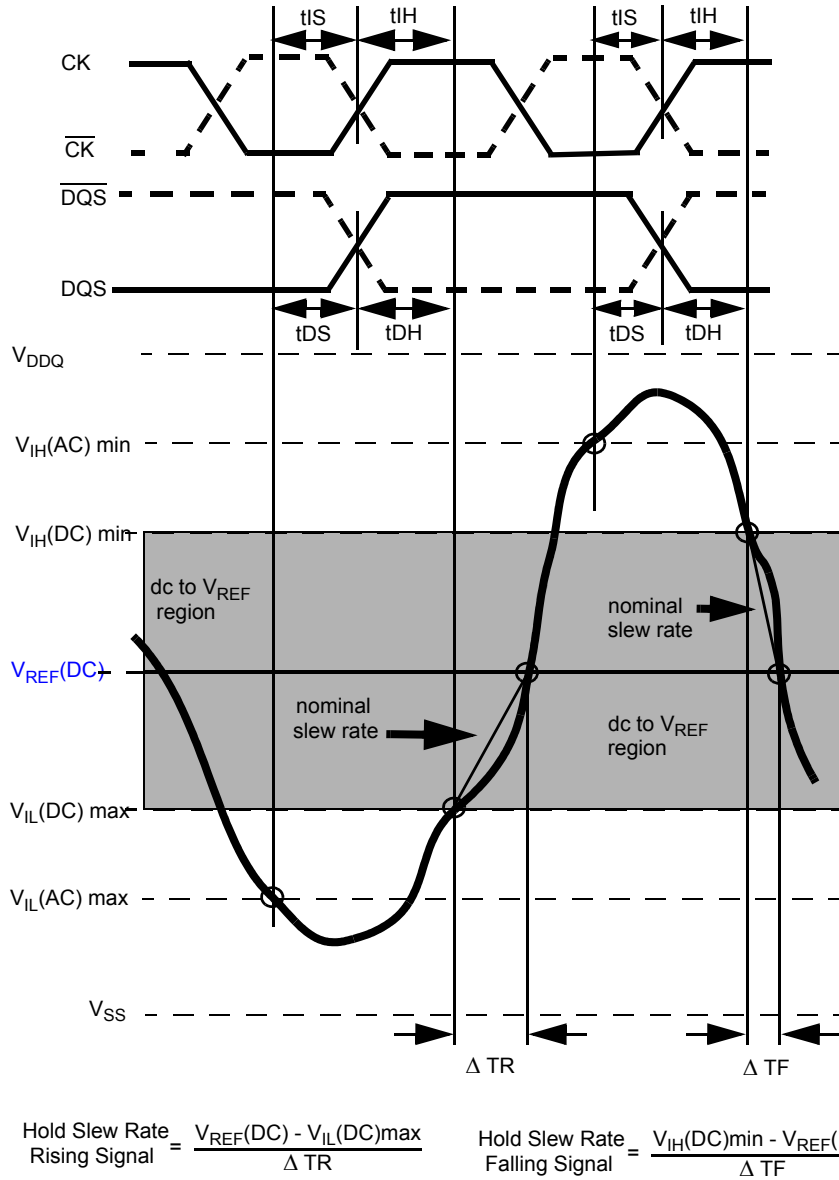
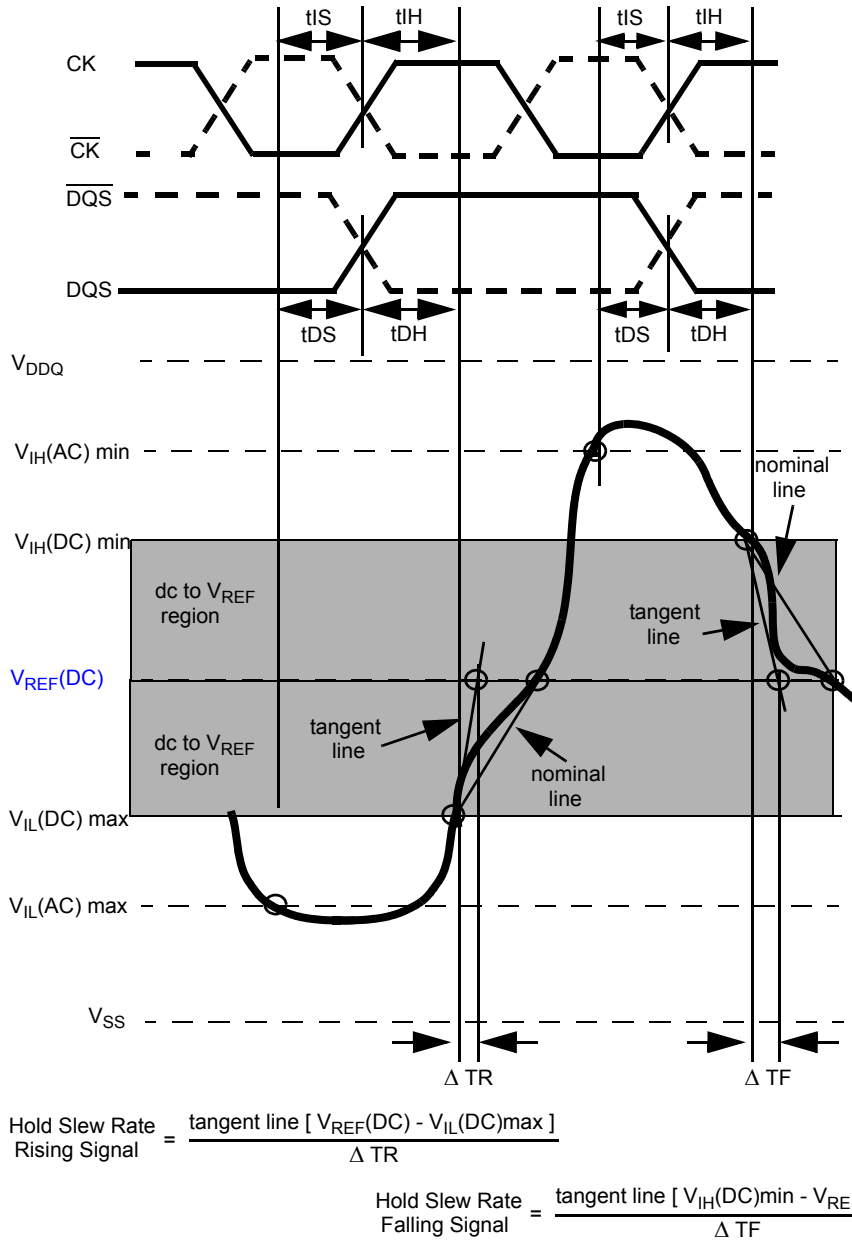

Figure 23. Illustration of nominal slew rate for hold time  $t_{DH}$  (for DQ with respect to strobe) and  $t_{IH}$  (for ADD/CMD with respect to clock).
Figure 25. Illustration of tangent line for hold time  $t_{DH}$  (for DQ with respect to strobe) and  $t_{IH}$  (for ADD/CMD with respect to clock)
Hold (tIH) nominal slew rate for a rising signal is defined as the slew rate between the last crossing of VIL(DC)max and the first crossing of VREF(DC). Hold (tIH) nominal slew rate for a falling signal is defined as the slew rate between the last crossing of VIH(DC)min and the first crossing of VREF(DC). If the actual signal is always later than the nominal slew rate line between shaded 'dc to VREF(DC) region', use nominal slew rate for derating value (see Figure 23). If the actual signal is earlier than the nominal slew rate line anywhere between shaded 'dc to VREF(DC) region', the slew rate of a tangent line to the actual signal from the dc level to VREF(DC) level is used for derating value (see Figure 25).